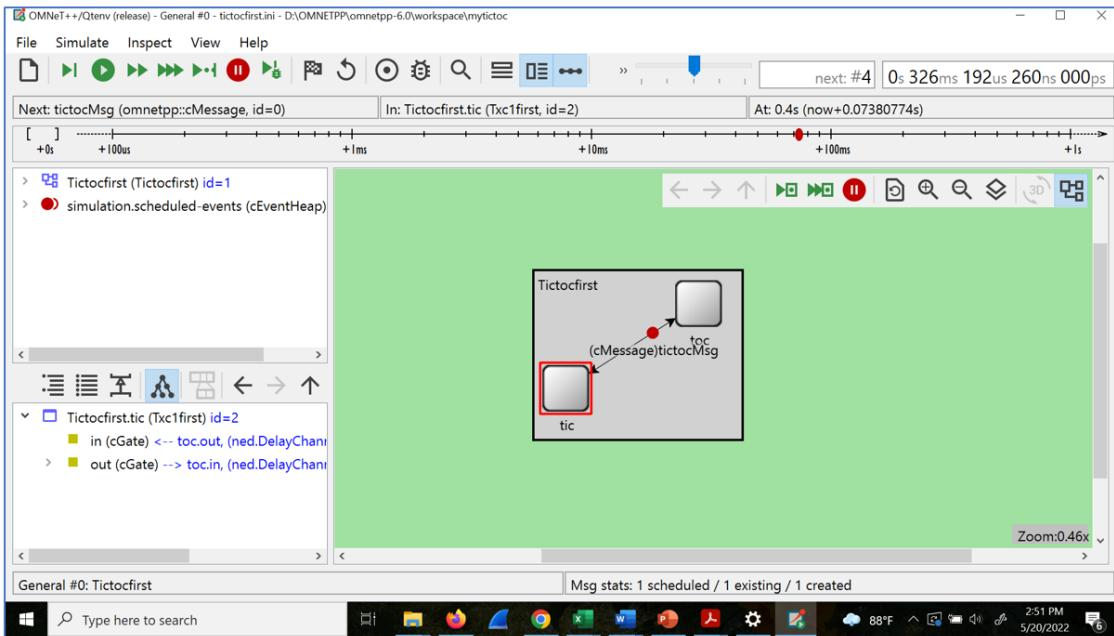

Figure 3.3: The QtEnv runtime GUI
- After successfully launching your simulation, you should see a new GUI window appear, similar to the one in Figure 3.3. The window belongs to *QtEnv*, the main OMNeT++ simulation runtime GUI. You should also see the network containing *tic* and *toc* displayed graphically in the main area.